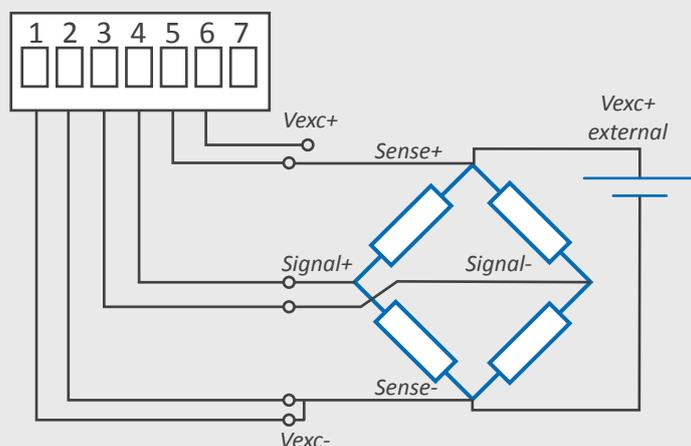

Figure 9 - Connections for external power
- Connect the load cell normally, and **do not** connect 'Vexc+'. Connect 'Sense+' and 'Sense-' to the load cell. 'Vexc-' must be connected to 'Sense-'. See *Figure 9*.